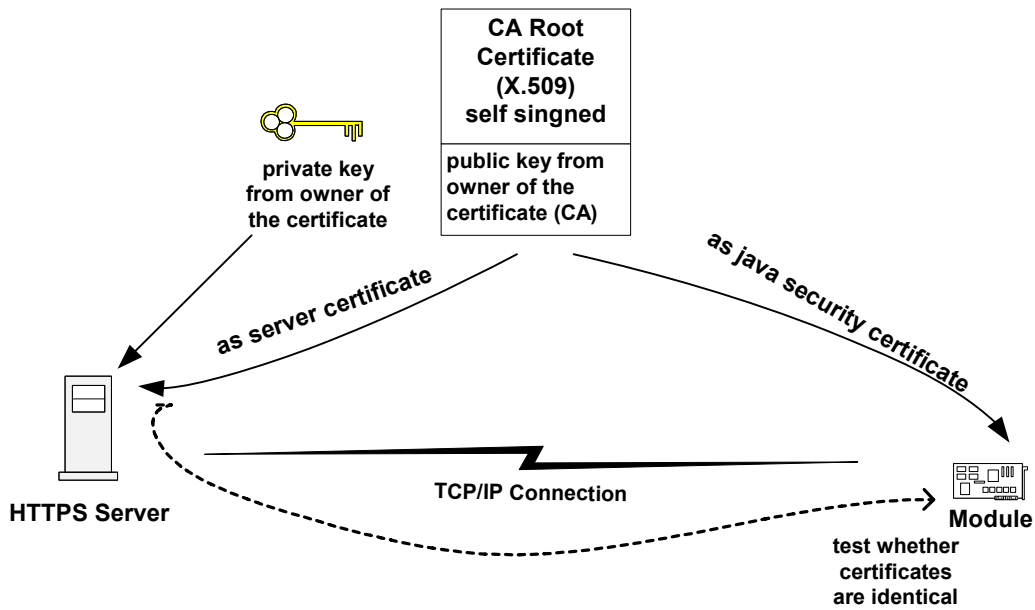
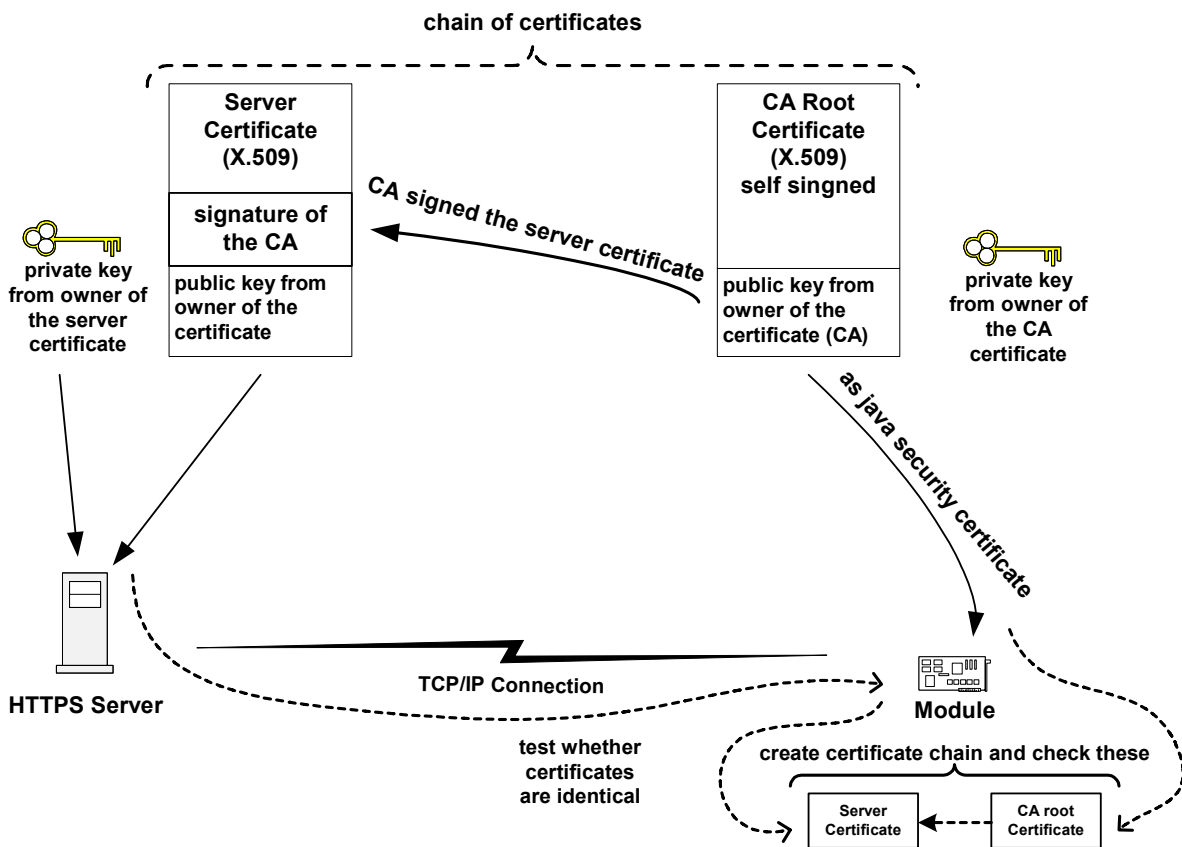

Figure 55: Mode 2 - Server Certificate and Certificate into module are identical
Figure 56: Mode 2 - Server Certificate and self signed root Certificate in module form a chain
- The server certificate is examined when setting up a connection. Two configurations are valid. The server certificate is identical to the certificate in the module (both certificates are self signed root certificates) or the server certificate forms a chain with the certificate of the module. Thus the authenticity of the server certificate can be examined with the help of the certificate of the module. (Figure 55: Mode 2 - Server Certificate and Certificate into module are identical and Figure 56: Mode 2 - Server Certificate and self signed root Certificate in module form a chain)